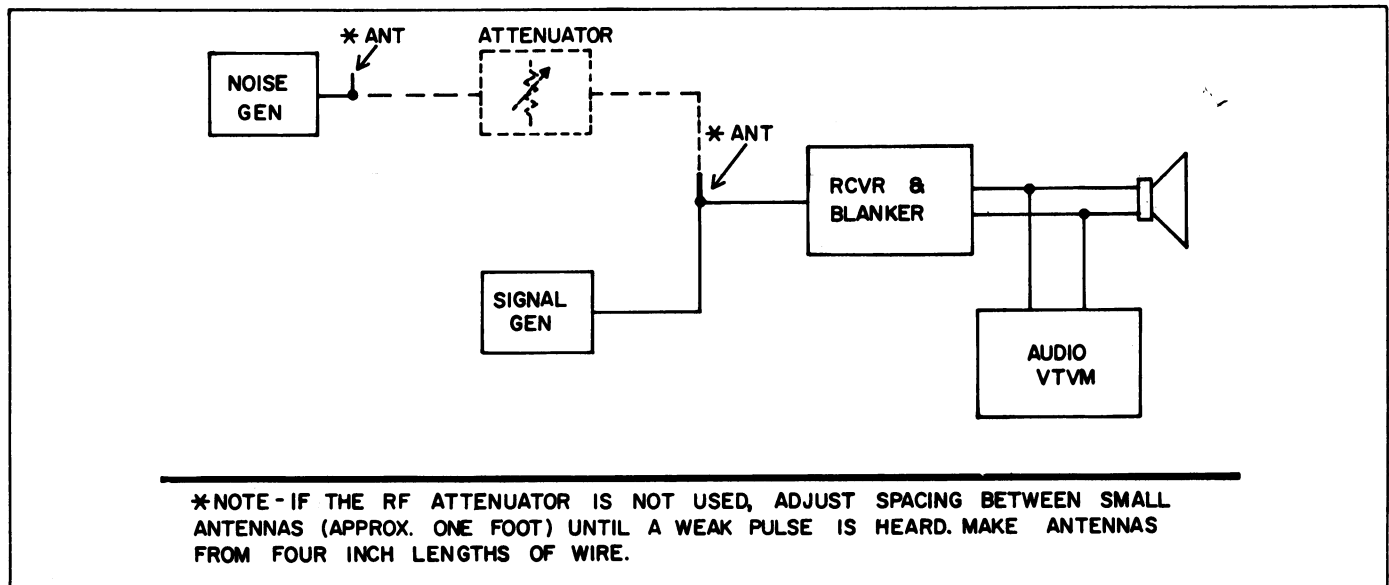

Figure 7 - Equipment Connection Diagram
1. Connect the equipment as shown in Figure 7.